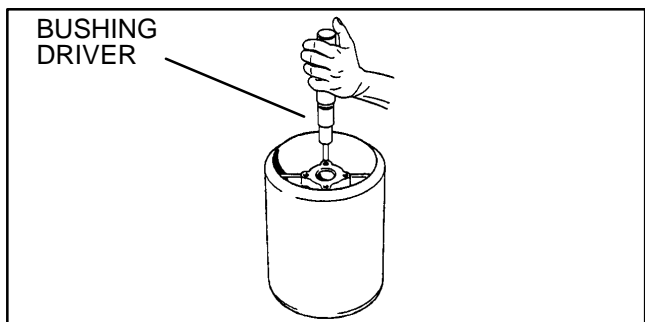

Figure 27
- Remove bushings from the drum (Fig. 27).